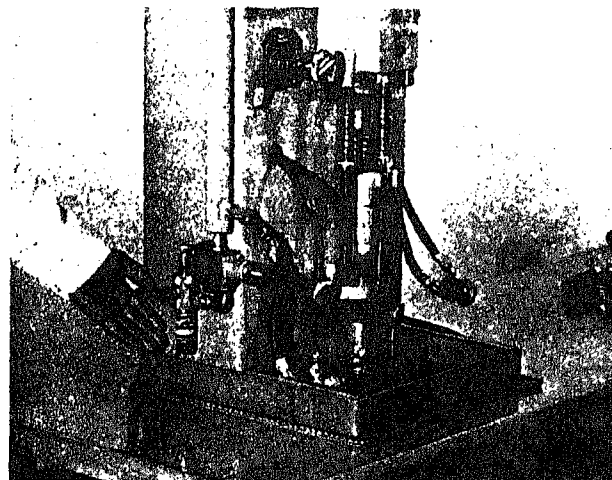

Fig. 6-1-48. Air pressure connection
5. Shop air pressure regulated by this air regulator is used to apply a balanced force on the hydraulic system. Fig. 6-1-48. The air gauge at top of hydraulic reservoir is used as a reference indicating that pressure has not changed, after being set using a load test cell during test stand calibration.
6. When the air valve is opened air travels up the pipe in the center of the tube type hydraulic reservoir and exerts a downward pressure against the column of hydraulic fluid. Fig. 6-1-48.